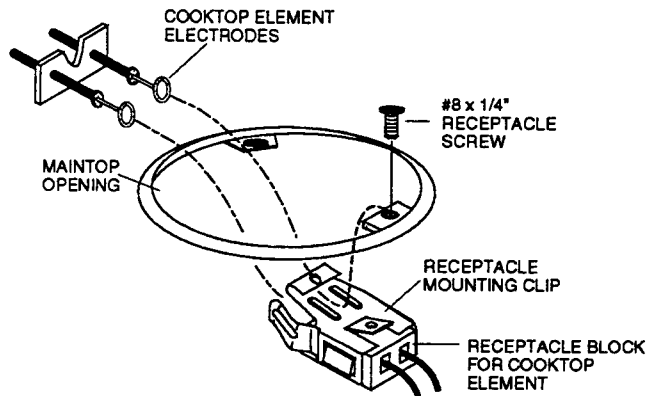
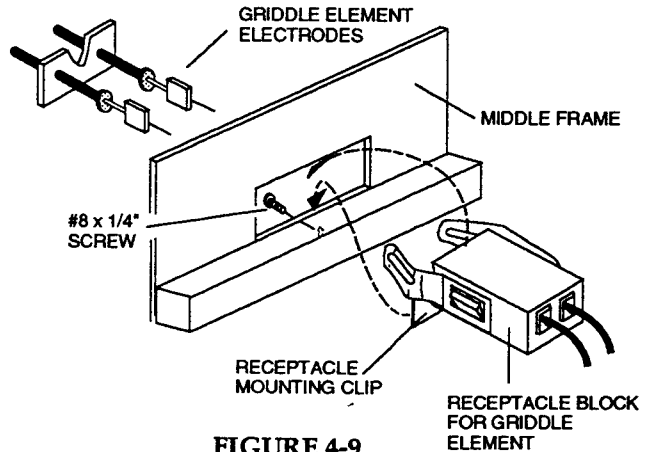

FIGURE 4-8
FIGURE 4-9
3. Remove the defective cooktop receptacle block from the maintop, (see Figure 4-8), or the defective griddle element receptacle block from the middle frame (see Figure 4-9).